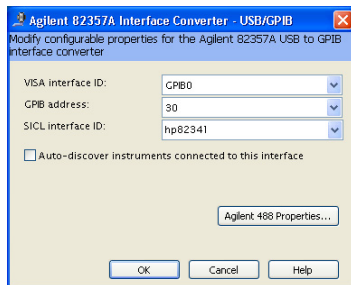

Figure 51 Agilent 82357 Interface configuration
- uncheck **Auto-discover instruments connected to this interface** (see Figure 51)